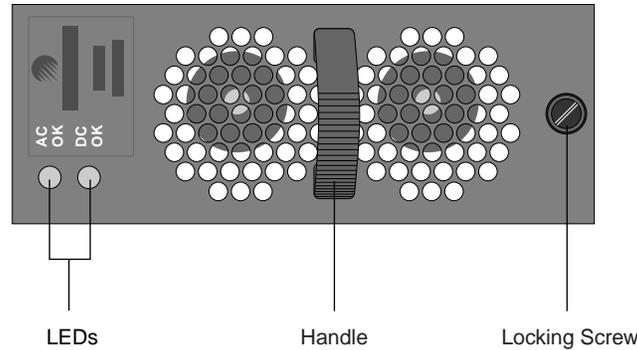

Figure 25. Bulk power supply LEDs
Each bulk power supply has two green LEDs: AC OK and DC OK. During normal operation, the AC OK LED lights to indicate the bulk power supply is receiving AC (mains) power. The DC OK LED lights to indicate the bulk power supply is providing DC power. If either of these LEDs is off, it indicates a power problem. Figure 25 shows the bulk power supply LEDs.
6. Unlock the failed power supply by using a #2 flat-blade screwdriver to loosen the locking screw. See Figure 25 on page 25 for the location of the locking screw.